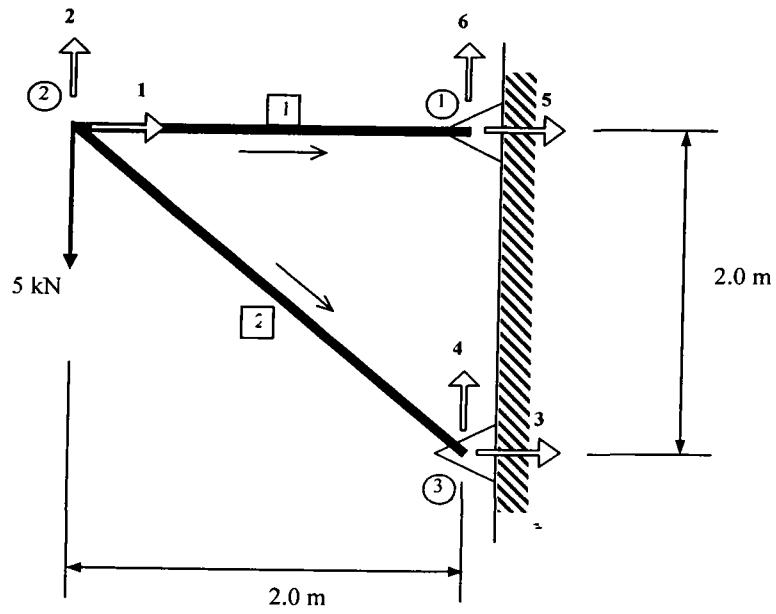

Figure 1 / Rajah 1
1. (a) Develop the stiffness matrices for member 1 and 2 for the truss shown in Figure 1.
All solutions should be based on member, node and degree of freedom as labelled in Figure 1 and 2.